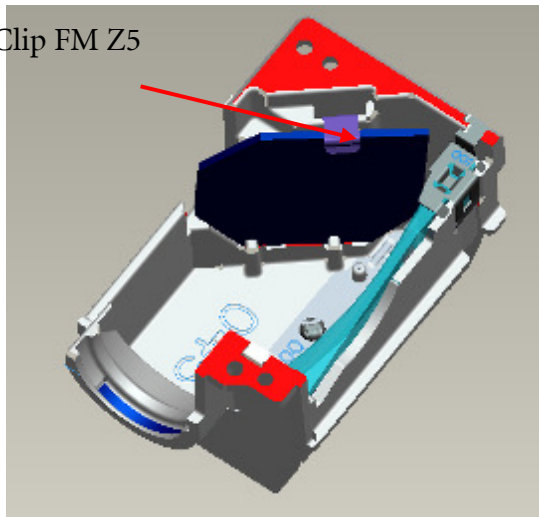

Fig. 2-7
- ii. Assemble “Clip FM Z5” to fix FM (Fig. 2-7).